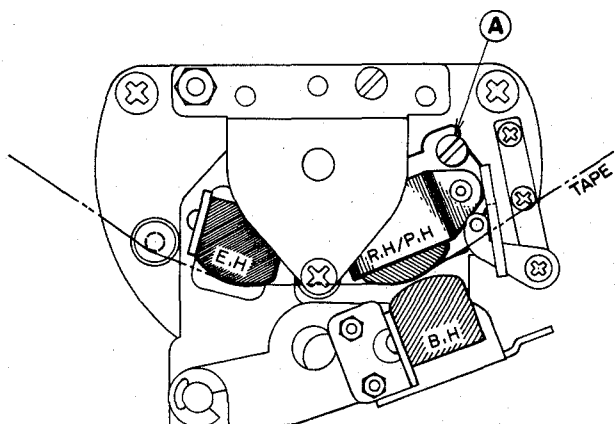

Fig. 2
- a) Azimuth alignment of the Recording/Playback Head (See Fig. 2)
- b) Angle of the Bias Head (See Fig. 2 and Fig. 4)